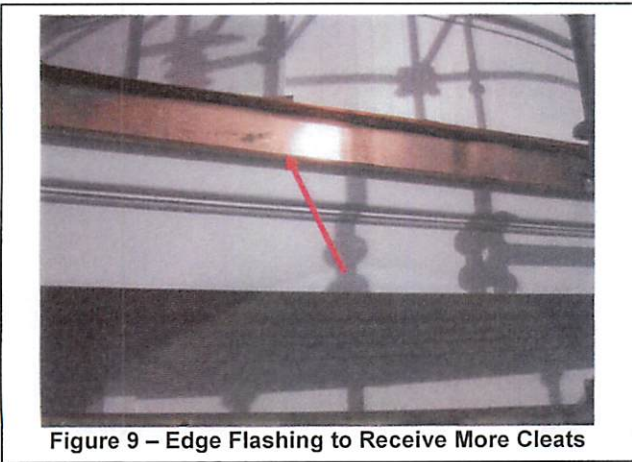

Figure 9 – Edge Flashing to Receive More Cleats
- 14 - All perimeter edge flashings to be reviewed and additional anchor cleats installed where missing. **Figure 9**